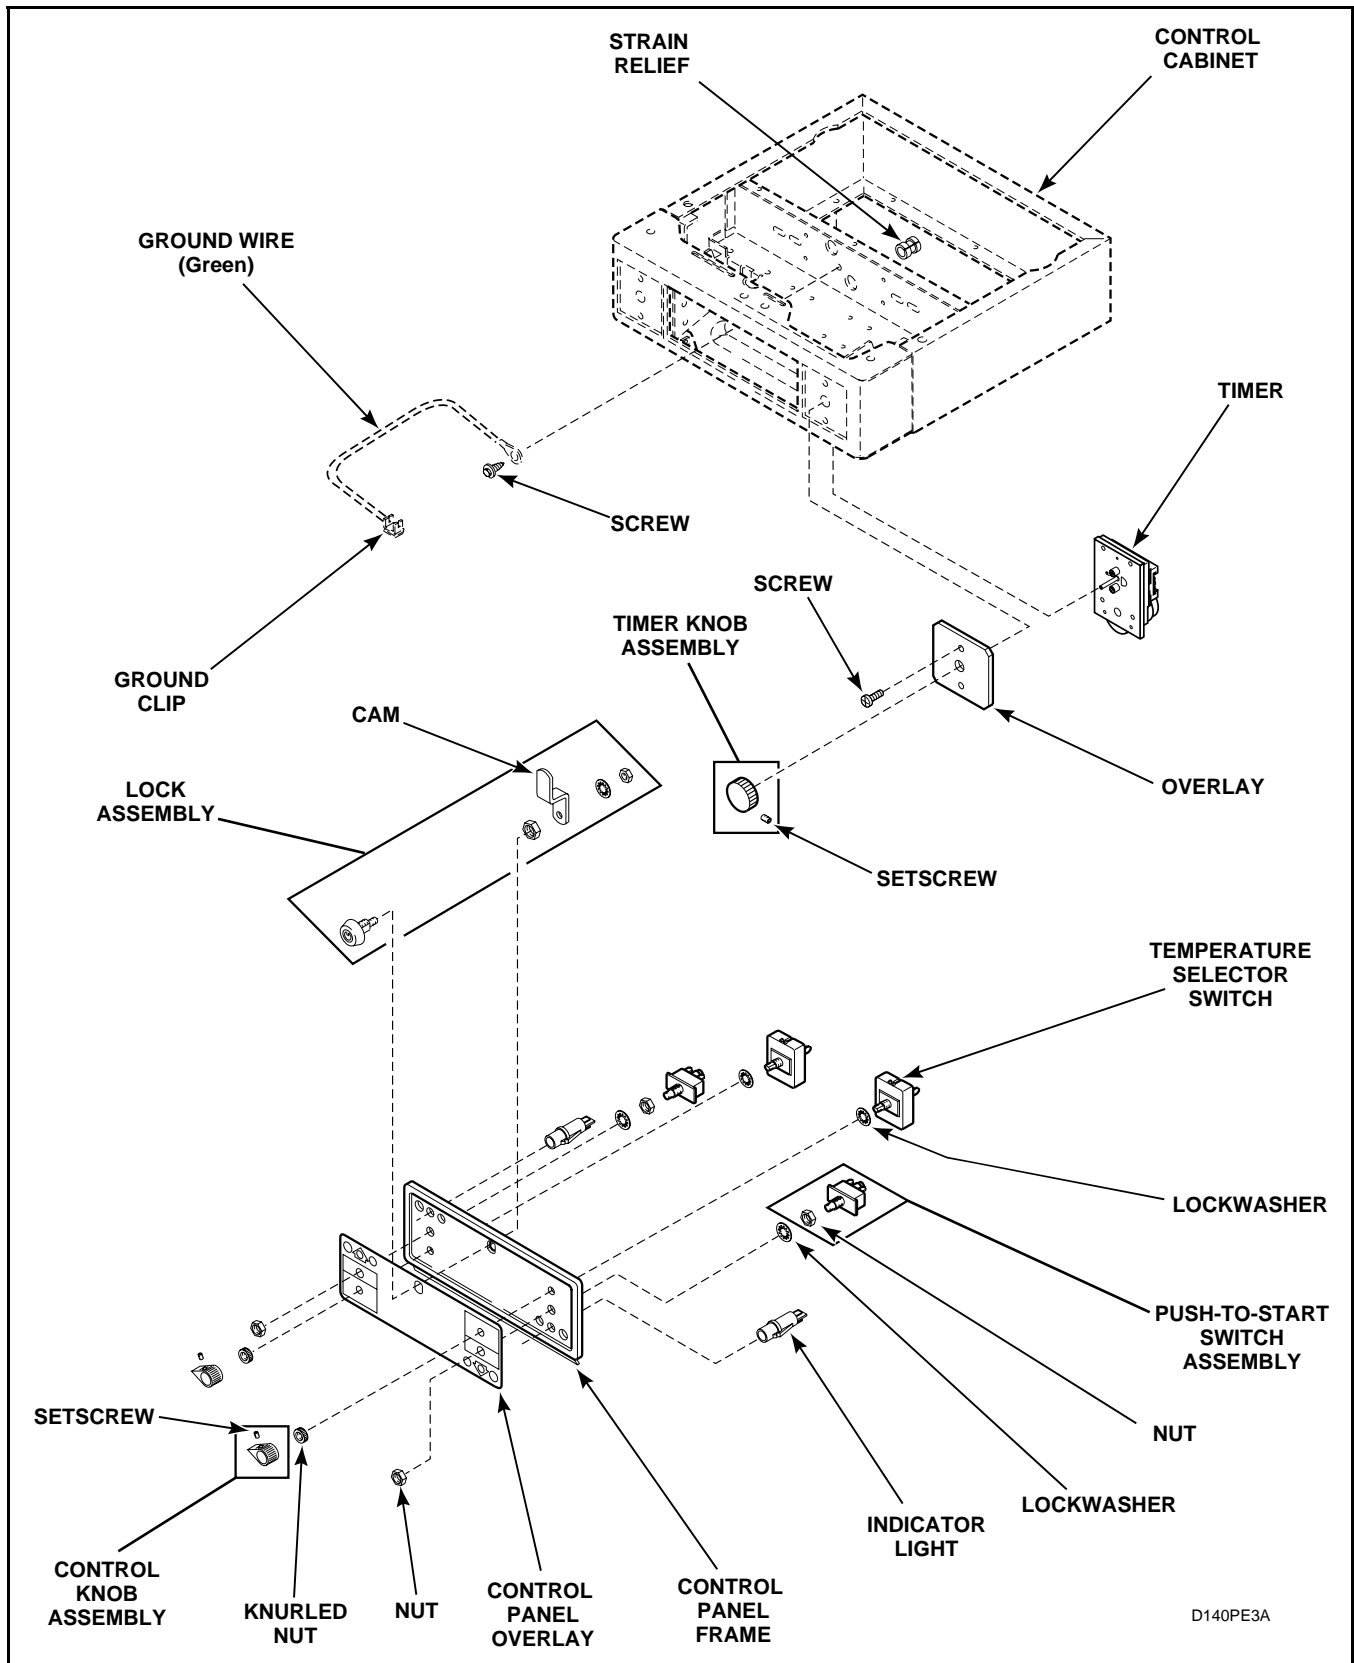

Figure 10
- f. Loosen setscrew holding switch knob to shaft and pull knob off shaft. See Figures 10 or 11.
- g. Remove knurled nut holding fabric selector switch to panel and remove switch. See Figures 10 or 11.
- h. Remove hex nut from push-to-start switch and remove switch. See Figures 10 or 11.
- i. Squeeze locking tabs on indicator light and pull light out from back of panel. See Figures 10 or 11.
- (6.) Loosen setscrew holding control knob to temperature selector switch shaft and pull knob off shaft. See *Figures 10 or 11*.
- (7.) Remove knurled nut holding temperature selector switch and lockwasher to panel, then remove switch and lockwasher. See *Figures 10 or 11*.
- (8.) Remove nut holding push-to-start switch assembly and lockwasher to panel, then remove switch and lockwasher. See *Figures 10 or 11*.
- (9.) Squeeze locking tabs on indicator light, then pull light out through back of panel. *Figures 10 or 11*.
- (10.) Remove locknut and lockwasher holding cam to lock assembly. See *Figures 10 or 11*.
- (11.) Remove large locknut holding lock assembly to control panel frame and overlay, then remove lock. See *Figures 10 or 11*.